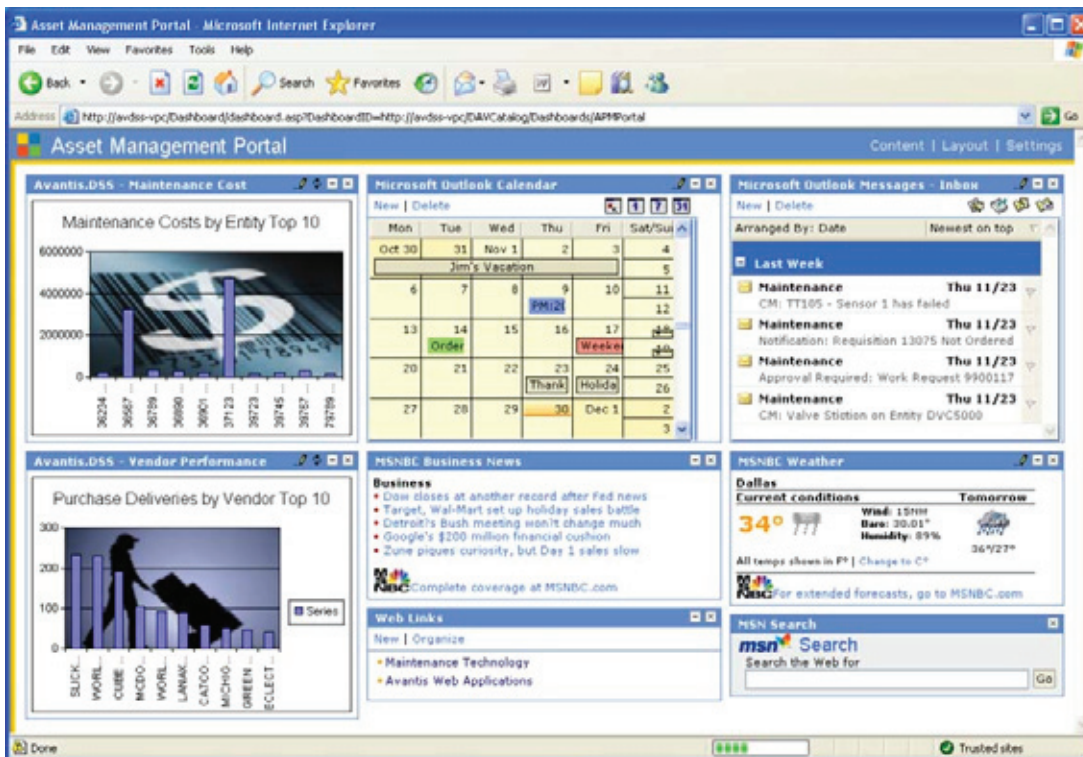

Figure 4. Such a graphical display often serves as the vehicle for delivering information.
**5. Business intelligence.** Is there an integrated measurement system as well as a vehicle to deliver the information across the company? The vehicle most commonly employed is some form of portal or dashboard solution such as the one shown in **Figure 4**.